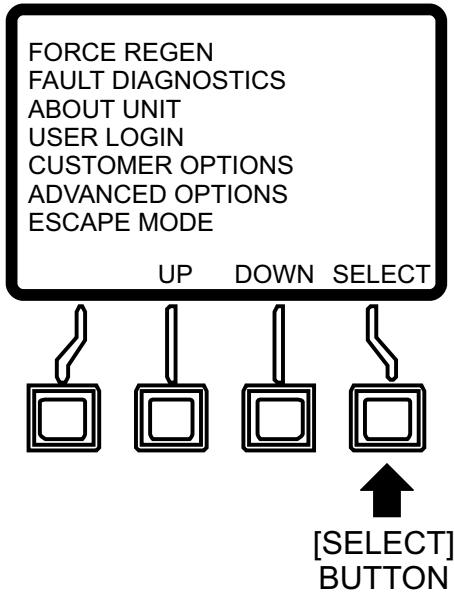

Figure 81. Escape Mode (Select Button)
5. Press the **[SELECT]** button (Figure 81) to enter the "Escape Mode" menu.